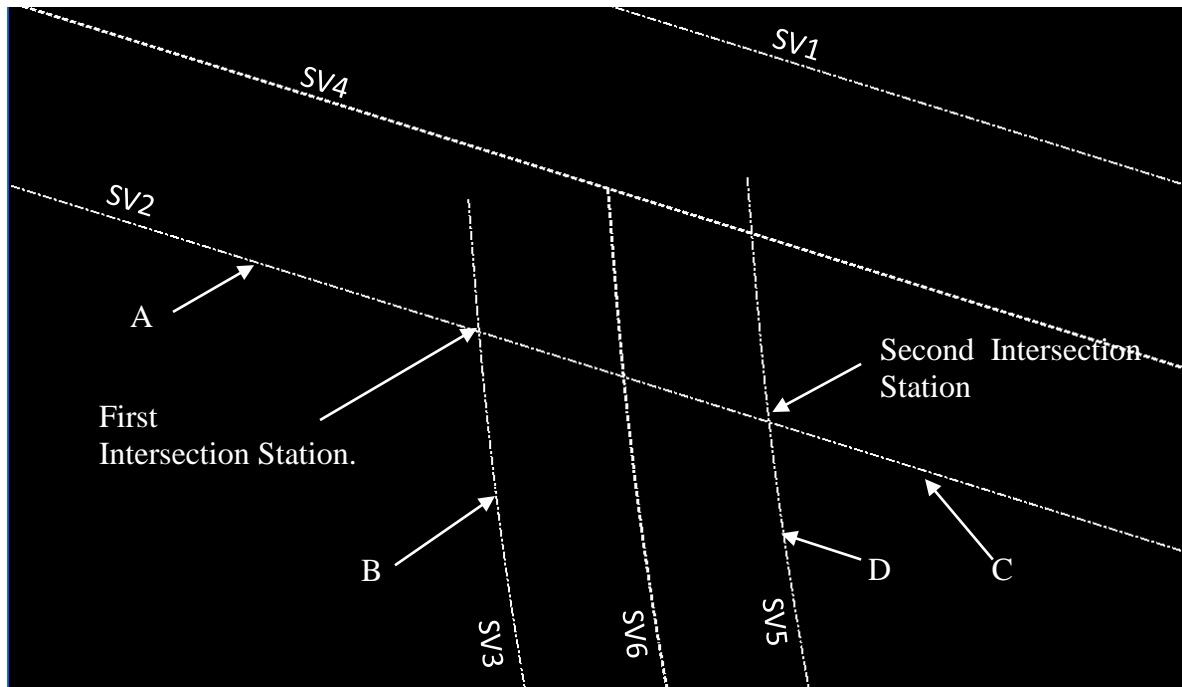

Figure L12-8 MicroStation View
- With the dynamic line from the previous step still active, use the **MicroStation** Intersection snap procedure described here to snap to the intersection identified as '*First Intersection Station*' in Figure L12-8.
3. Tentative snap anywhere on **SV2** near the location identified as 'A' in *Figure L12-8*. Alignment **SV2** will turn purple as shown here.
4. Tentative snap anywhere on **SV3** near the location identified as 'B' in *Figure L12-8*. Alignment **SV2** will remain purple, alignment **SV3** will turn purple and the intersection point will be tentatively identified as shown here.
- With the dynamic line from the previous step still active, use the MicroStation Intersection snap procedure to snap to the intersection identified as '**Second Intersection Station**' in Figure L12-8.
3. Tentative snap anywhere on **SV2** near the location identified as 'C' in *Figure L12-8*. Alignment **SV2** will turn purple as shown here.
4. Tentative snap anywhere on **SV5** near the location identified as 'D' in *Figure L12-8*. Alignment **SV2** will remain purple, alignment **SV5** will turn purple and the intersection point will be tentatively identified as shown here.